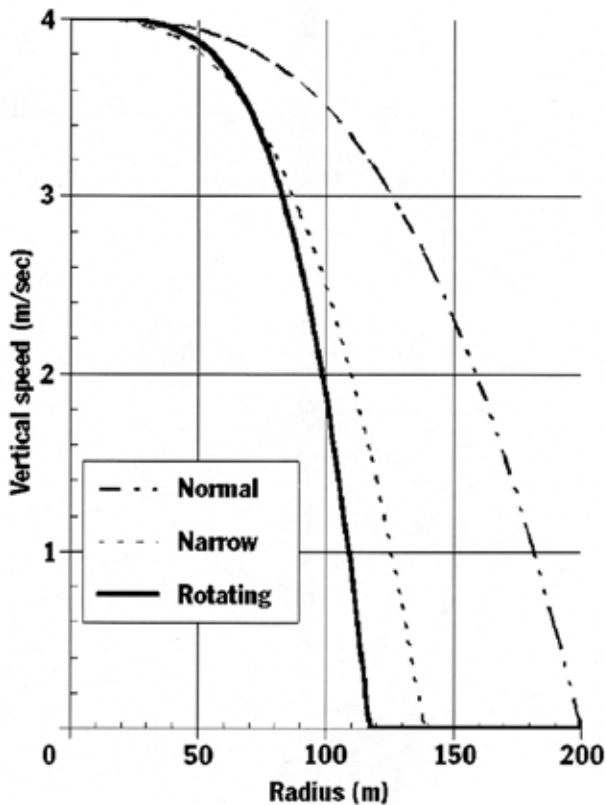

Fig 2.3. Profiles of upward movement of the air in model thermals
In a thermal, pilots expect the lift to get less away from the centre, often in a smooth way⁵. In a rotating thermal, every part of the calm core is likely to have the same strong lift (See Figure 2.3). The core will be almost perfectly circular, because the rotation will smooth off any bumps around the edge. In the rough air outside the core there will be wild updrafts and downdrafts. The lift will get very weak not far away from the core.
5. I once proposed two thermal models, "normal" and "narrow" (Figure 2.3) with the lift falling off according to the cube of the radius ("Rate of Climb in Thermals" by Garry Speight, Australian Gliding Vol. 31, No. 2, February 1982, pp 28-39, 47). "Normal" thermals are easy to work; "narrow" thermals need more care and concentration.
Figure 2.3 shows these model thermals in the case of a central velocity of 4m/sec. They will yield a rate of climb of about 2.5m/sec (5kt).
Figure 2.3 includes this curve.